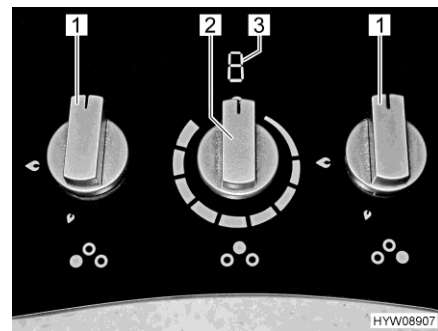

Fig. 199 Operating controls (gas cooker with induction hob)
- Turn the control knob (Fig. 199,1) on the burner you wish to use to the ignition position (large flame).
- Turn the control knob (Fig. 199,1) to 0 position. The flame fades.
- Turn the control knob (Fig. 199,2) of the induction hob to the desired setting. The indicator (Fig. 199,3) shows the adjusted value.
- Turn the control knob (Fig. 199,2) of the induction hob to the 0 position. The indicator (Fig. 199,3) goes out. As long as the temperature of the induction hob exceeds 60 °C after switching off, the indicator will show "H" (residual heat display).
The following information is displayed on the induction hob (Fig. 199,3):